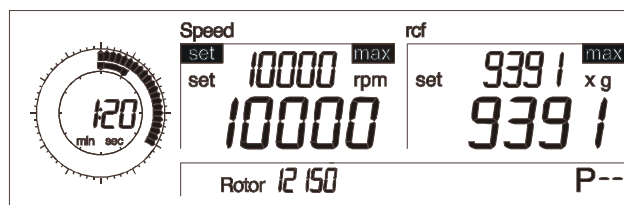

Fig. 5.14:
- Turn the left rotary knob until “set” appears in front of the parameter “Speed” on the display (Fig. 5.14).